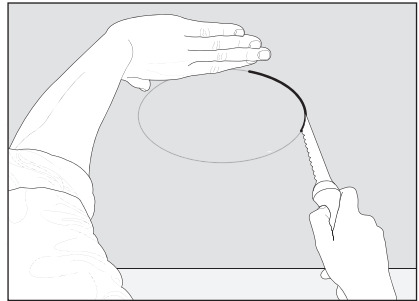

Fig. 5b
4. Remove the template and cut out the opening with a drywall knife (Figs. 5b & 6b).